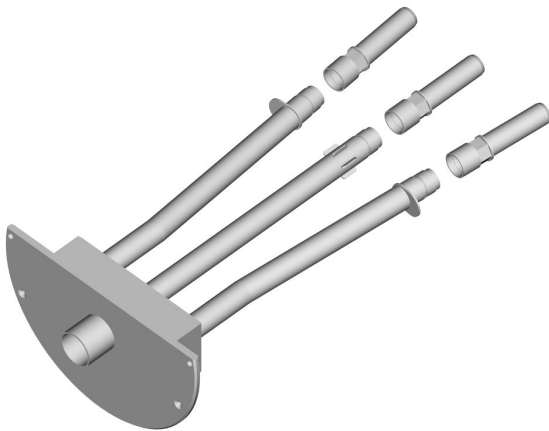

FIGURE 6
2. Mount the gas injectors on the gas lance (see Figure 6),